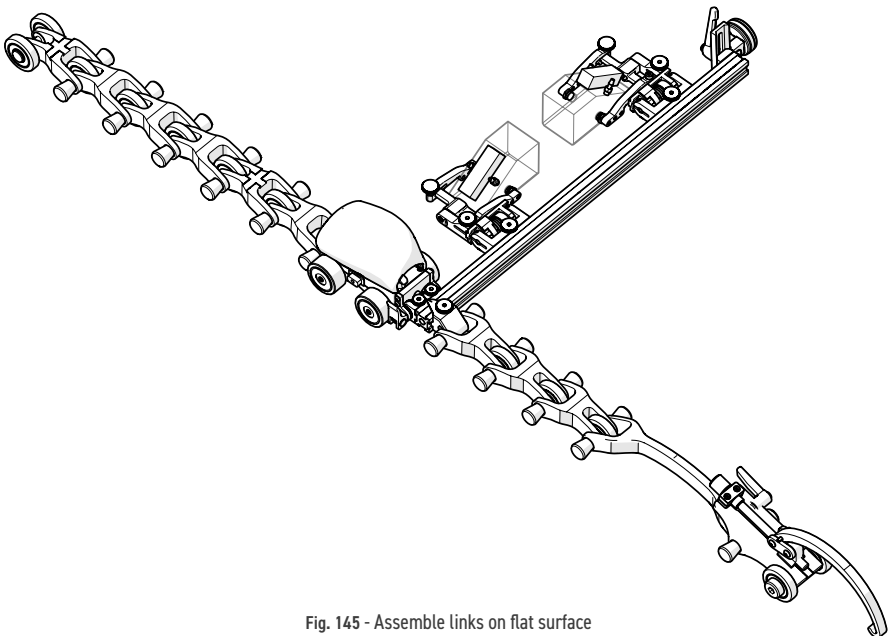

Fig. 145 - Assemble links on flat surface
3. On a flat surface, connect the appropriate amount of links as indicated on the **ROTIX** setup chart. Arrange the link setup so the buckle and catch link will be 180° opposite of the cart body (Fig. 145).